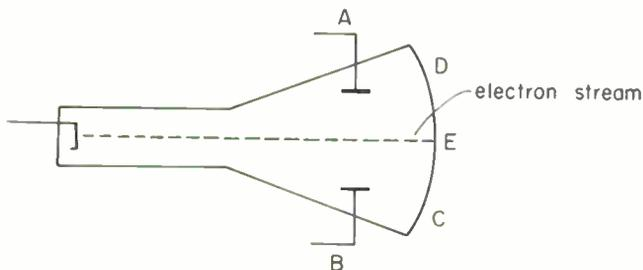

Fig. 17
6. In Fig. 17, if a negative charge is placed on plate *A* and a positive charge is placed on plate *B*, the electron stream